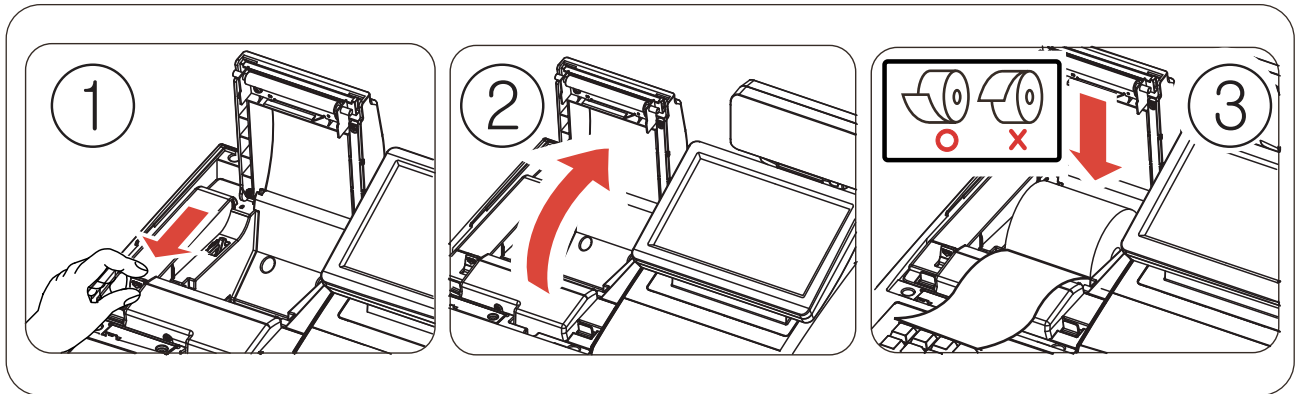

Figure 3-2 Paper Installation
2. Pulling the Orange Lever will open paper cover in Figure3-2-①.
3. Ensure that the paper is being fed from the bottom of the roll. Place the roll into the concave bottom of the printer. And put the leading edge of the paper over the printer in Figure3-2-②.